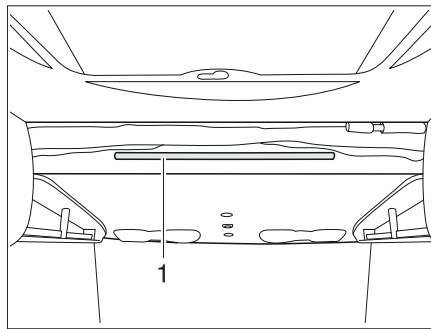

Fig. 149 Electrical pull-down bed
- Hook the access ladder to the pull-down bed by fitting both brackets into the holding bar (Fig. 149,1).